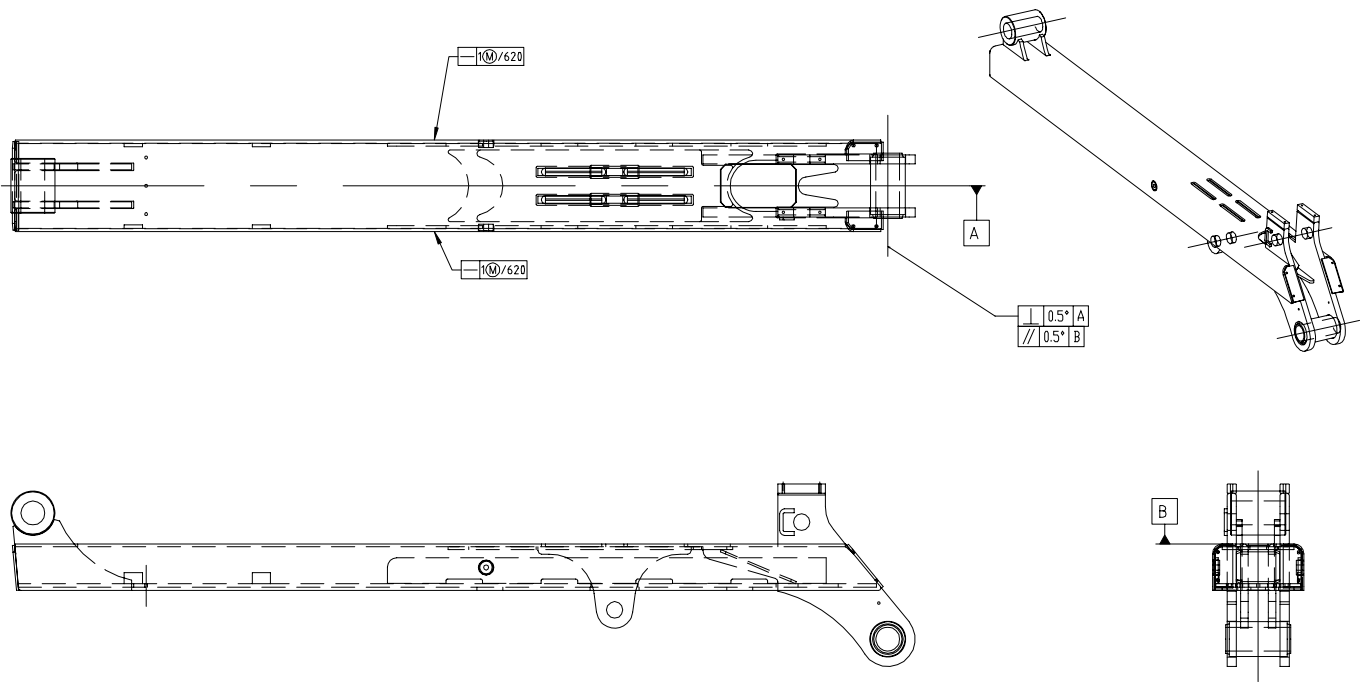

Figure 9: Bottom arm checks required.
1. Check the straightness of the arm shown in figure 9.